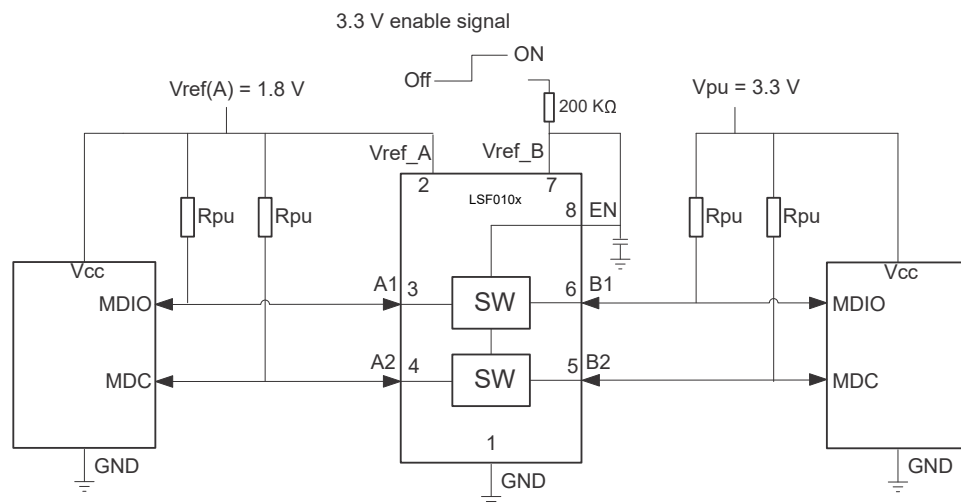

Figure 9-1. Typical Application Circuit for Open-Drain Translation (MDIO Shown as an Example)
- V_{CCB}/V_{CCA} are not the same as V_{ref_B} or V_{ref_A} : V_{CCB} refers to the B-side supply voltage supplied to the LSF device, while V_{ref_B} refers to the voltage at the V_{ref_B} pin (pin 7 of Figure 9-1) on the other side of the 200k resistor.